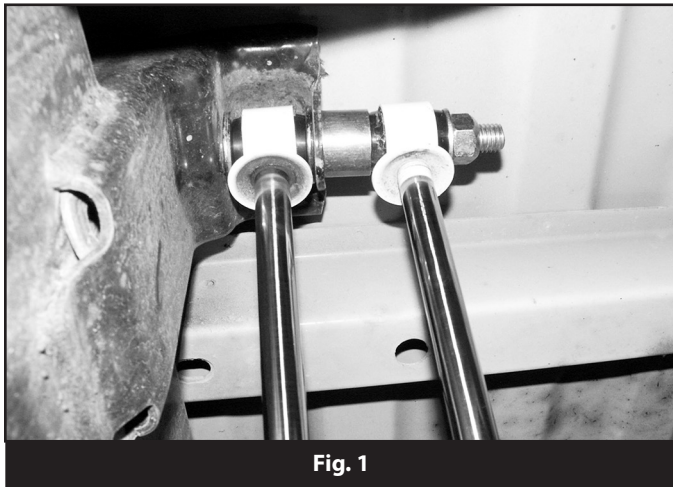

Fig. 1
6. Install shorter sleeves (#74-1) into shock that will be mounted outside of OE pockets (Fig 1/2)
8. Install 9/16" x 5-1/2" bolt with washer (run bolt from outside to inside) through new shock in the OE pocket. Place 7/8" long sleeve and new shock on bolt. Torque bolt to 100 ft-lbs. (Fig 1/2)